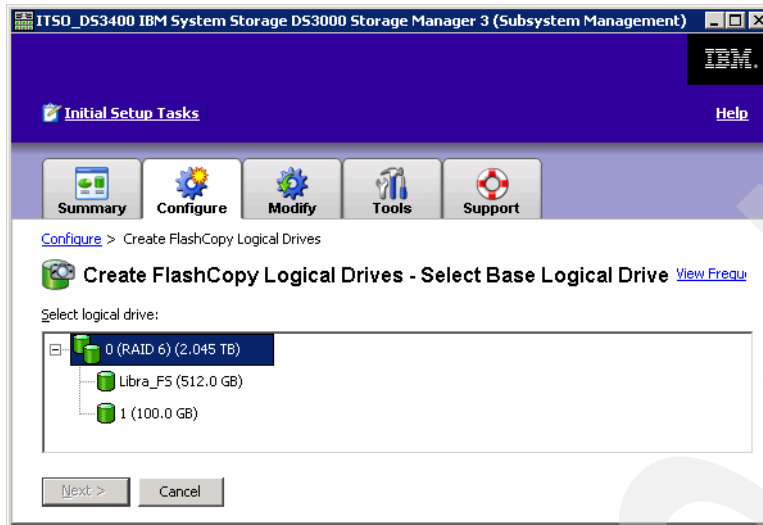

Figure 9-62 FlashCopy - Select Base Logical Drive
2. The drive selection window appears (Figure 9-62 on page 189). Select the base logical drive from which to create the FlashCopy. Select a drive and click **Next**.